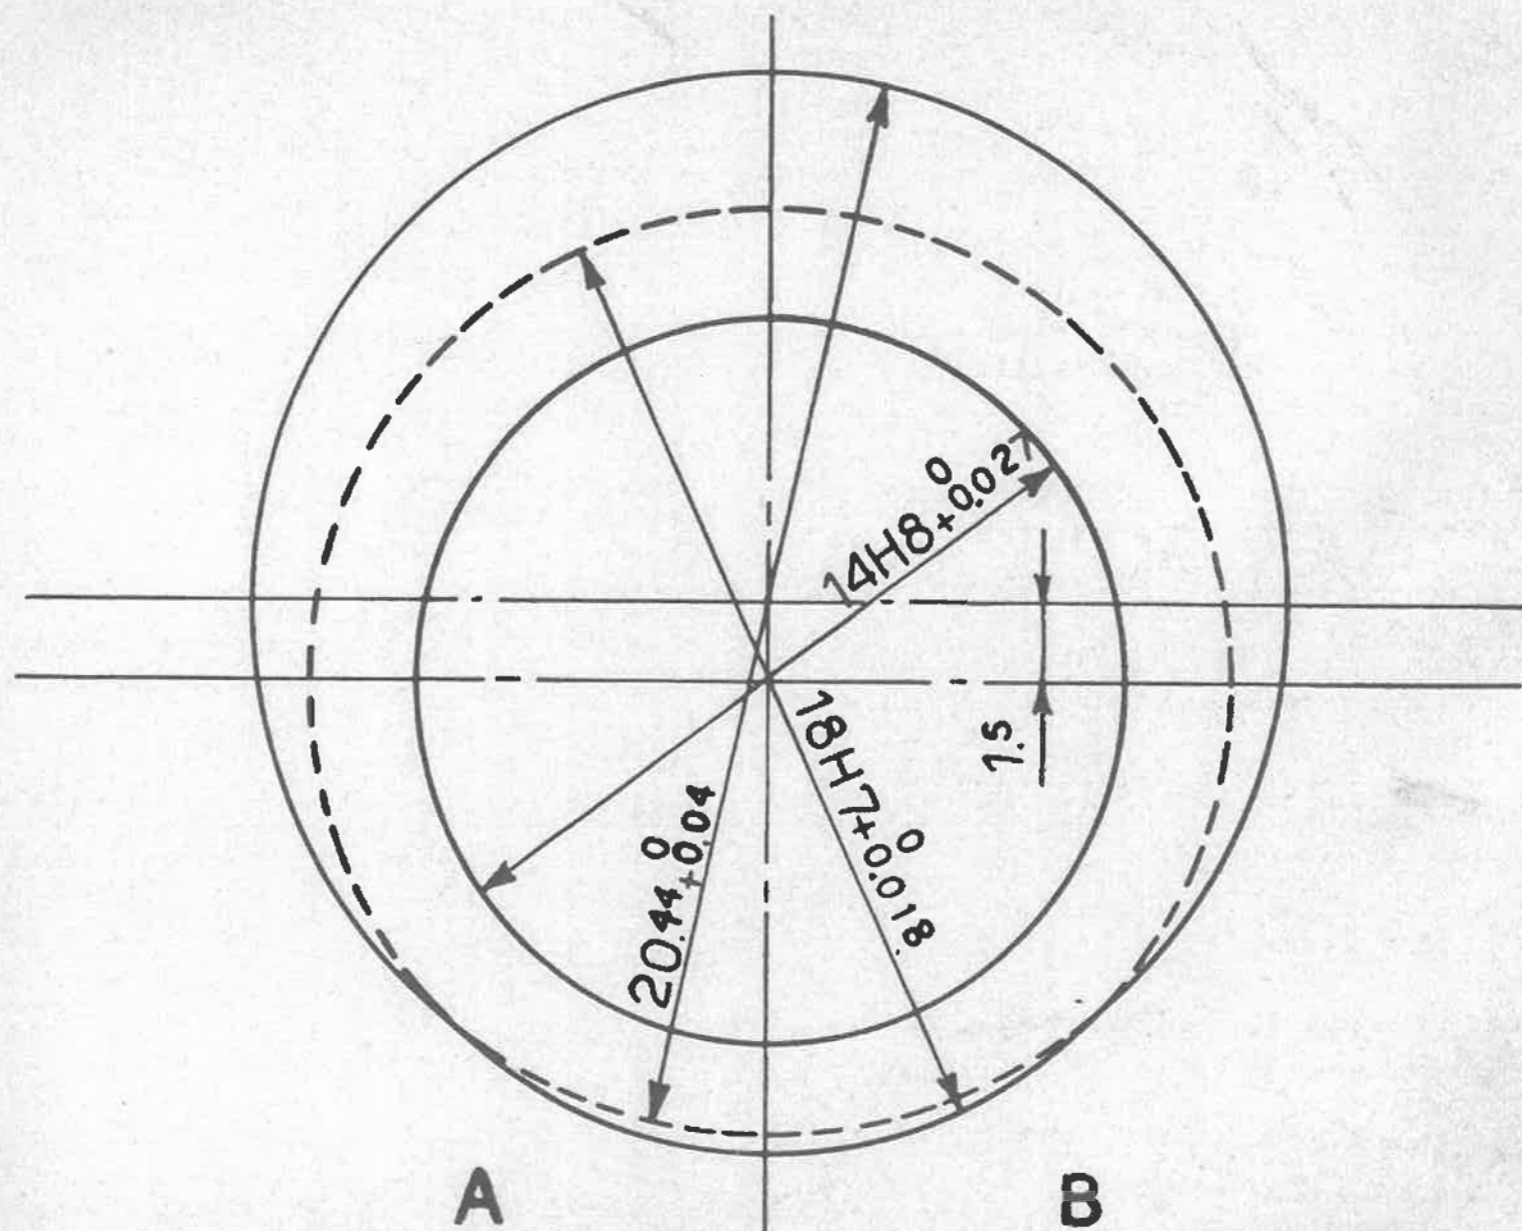

Fig. 26 - Schema sede delle palette sulla pompa olio
- The sliding seat of the two vanes. It does not it is circular but has the shape and dimensions marked in Fig. 26.